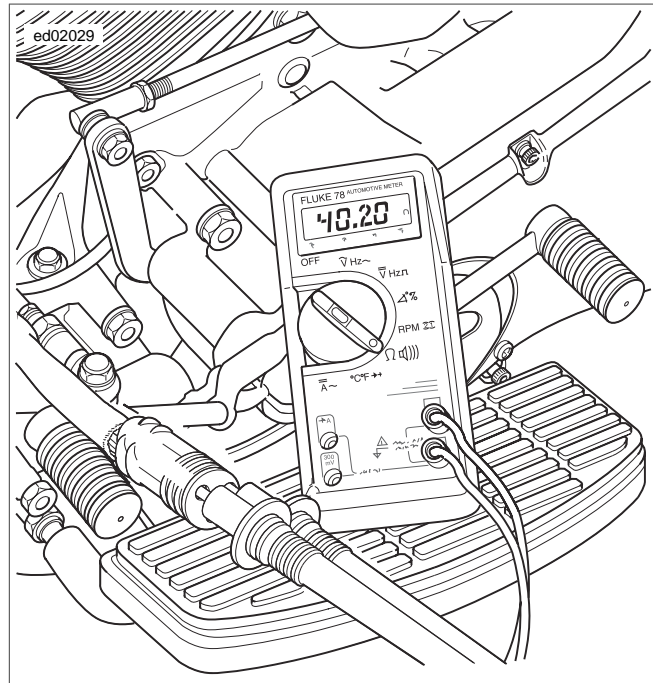

Figure 1-25. Check Stator AC Voltage Output (Typical)
1. See Figure 1-25. Test AC output.